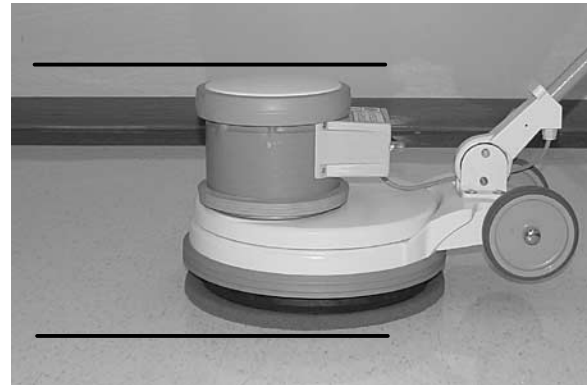

FIG. 11
4. Before starting the machine, hold the handle so the machine base is parallel to floor (Figure 11). This will reduce the abrupt jolt when starting the machine.